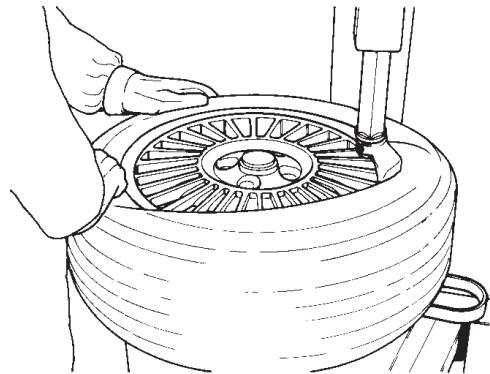

Fig. 4.1-7
G. Rotate the turntable clockwise and, at the same time, push down on the tire sidewall to move the bead into the drop center of the rim (Fig. 4.1-7).